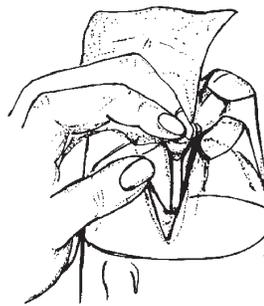

Figure 8
5. Lightly sand inside each of the bottle feet where the body tube will fit (Figure 8). The sanding is done in preparation for the attachment of the plastic insert and body tube.